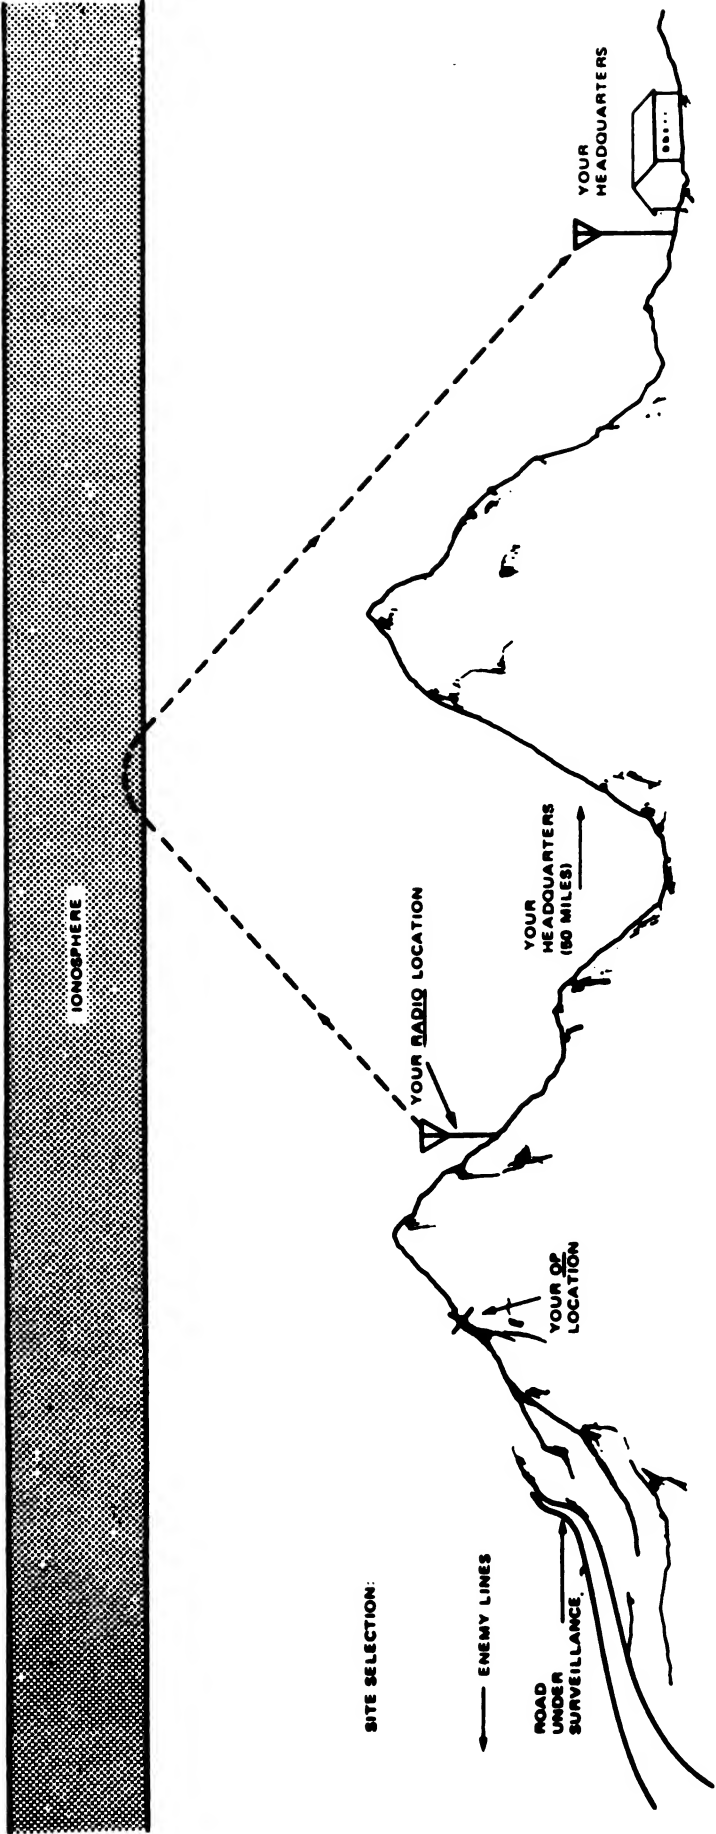

Figure A2-6. Site Selection, Situation 2
A2-24. Scenario (Figure A2-6). Your squad must set up an observation post (OP) as part of a road surveillance team. You are required to check in with your headquarters (50 miles east) once every hour. Your OP is in a mountainous region and a large mountain is located between you and your headquarters (see fig A2-6). Your frequency possibilities are the same as in situation 1.